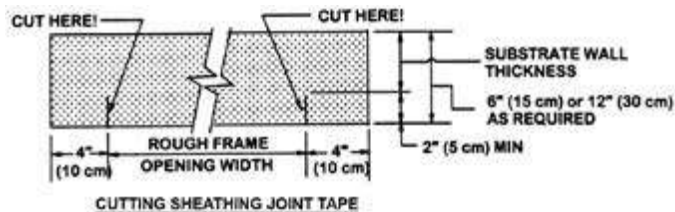

Fig. 10.3
- Cut a piece of Parex USA 396 Sheathing Tape 8 in. (203mm) longer than the rough opening. Embed Sheathing Tape into Parex USA WeatherSeal and install on the sill and up the jambs with at least 2 in. (51mm) protruding to the outside of the opening. Make a cut at each corner to form three "flaps" (Fig 10.3).